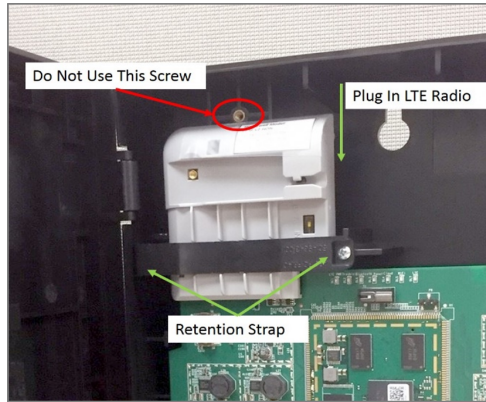

Figure 4-6: Installing the Cellular Module
04. On the top edge of the gateway, plug the cellular module onto the 40-pin expansion slot (see Figure 4-6: Installing the Cellular Module ).
05. Secure the cellular module with the retention strap and a screw, which come with the module (see Figure 4-6: Installing the Cellular Module ).